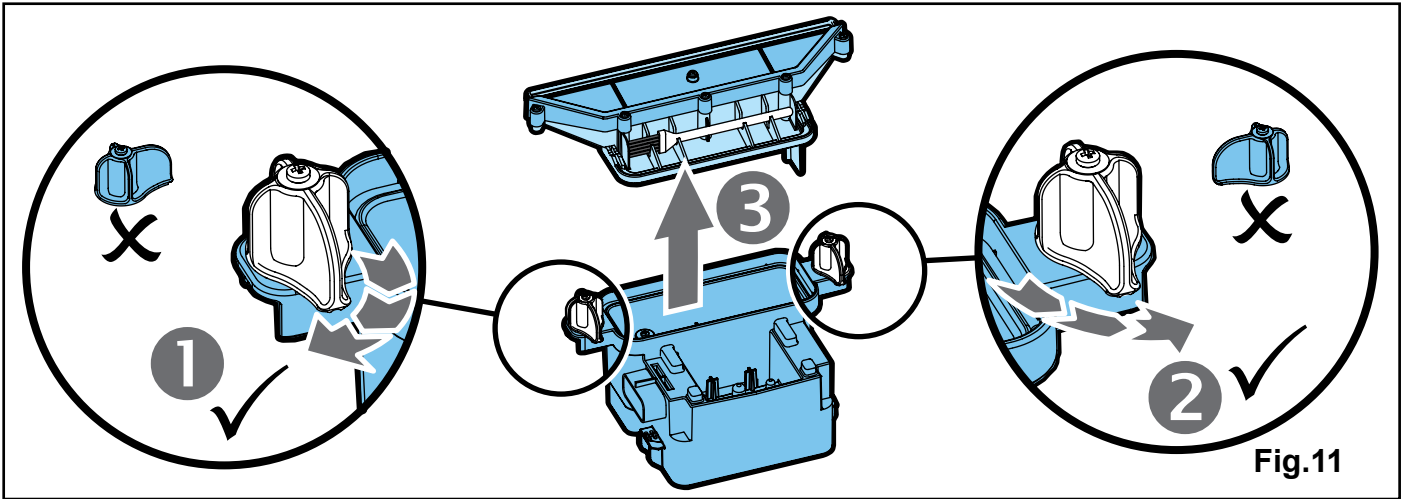

Fig.11
7. Release the two upper sump locking tabs by turning 90°, then lift off the sump lid. (See Fig.11)